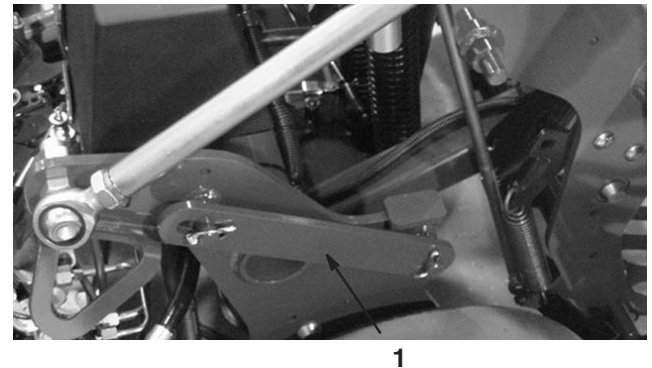

Figure 21
2. Remove clip ring securing service latch in storage position (Fig. 21).